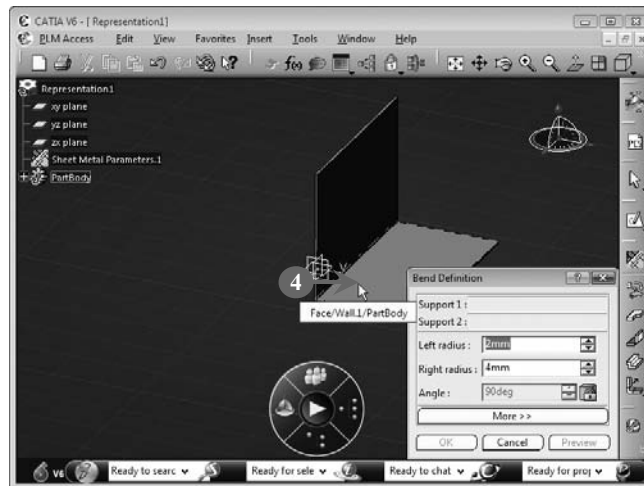

FIGURE 6.48
The **Bend Definition** dialog box opens (**Figure 6.48**).
4. Select the base wall, as shown in Figure 6.48: